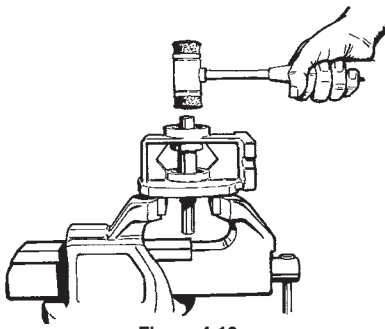

Figure 4-19
Refer to Figures 4-19 and 4-20 for
4. Place the pedestal, pump side down, on the jaws. Refer to Figure 4-19.